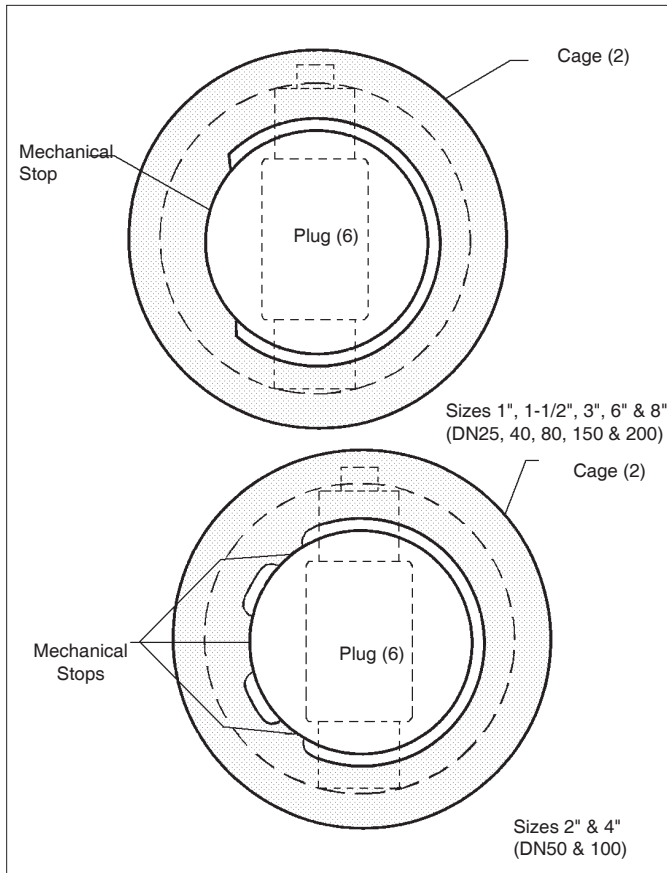

FIGURE 7
- Rotate plug (6) to the closed position. Ensure that the plug (6) is fully pulled into the mechanical stop (5) on the cage (2). See Figure 7. Ensure that the closing torque is nil; i.e. actuator assembly (AA) linkage is "loose" or "slack".
- Insert the cage/plug subassembly (2)(4)(5)(6) into the body (1). On 1-1/2" and 2" sizes with lo-noise inserts or abrasion sleeve, make sure these pieces and the cage (2) slip together on the back of the cage (2). Make sure the tongue on the plug (6) stub shaft and the groove in the stem subassembly (7) mate together. Check by looking in through the back-end of the body (1) or by adjusting the supply pressure to the actuator within limits of bench range as specified on name plate (21), watching for plug (6) movement as stem subassembly (7) rotates.